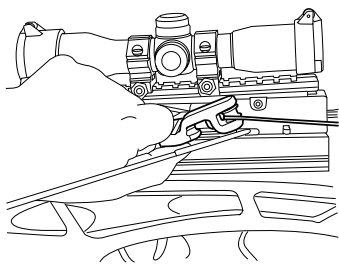

Figure 19
- 6.7 While applying slight pressure on the crank handle, disengage (pull) the pawl to release the rope guide. While holding the pawl depressed, reverse the crank handle several turns. Rotate the rope guide upward to remove from the bowstring (See Figure 19).